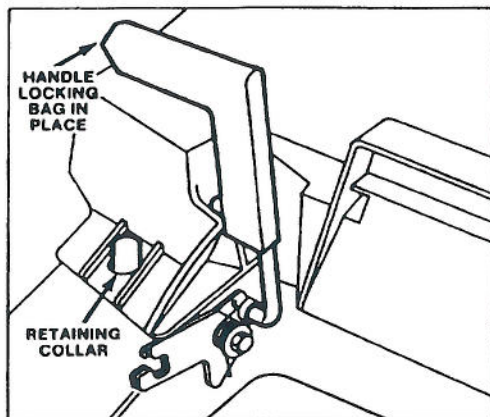

Figure 12
3. **INSTALLING BAG** — Slide hole in bag frame onto retaining collar on housing (Fig. 12) and set rear of bag frame onto lower handle.
4. Pull chute door handle forward until pin clears bag catch and move handle rearward until pin locks in bag notch (Fig. 12). Chute door in mower housing is now open. It may be necessary to push down on top right of bag door to release handle locking pin from catch.